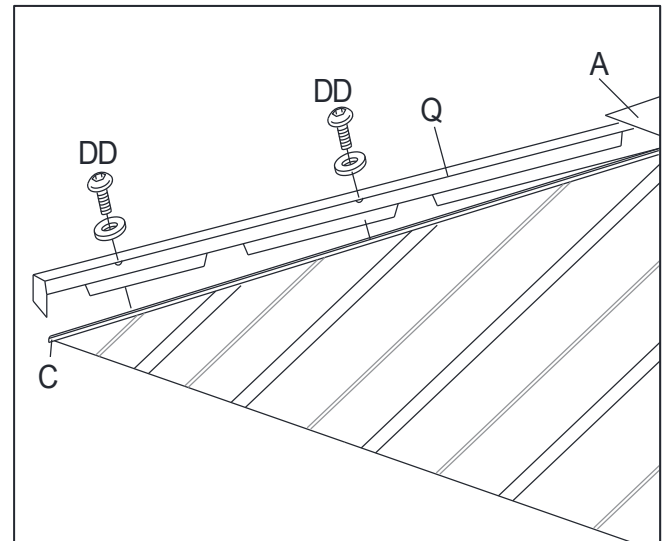

Fig.13.2
13. Put Top Panel Cover (Q) on the top of Long Top Bar (C) and then insert Top Panel Cover (Q) into the gap between Upper Central Connector (A) and Long Top Bar (C). Then attach Top Panel Cover(Q) to Long Top Bar (C) with Bolt (DD). See Fig.13 (Fig.13.1——Fig.13.2).